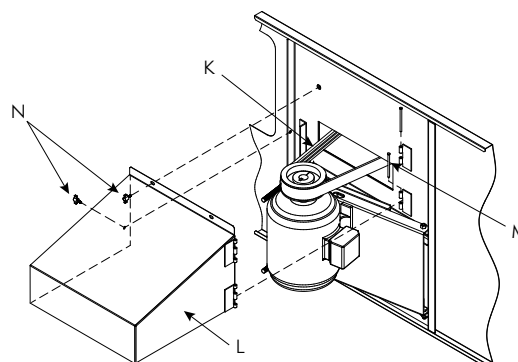

Figure 20 — Motor Guard and Power-Band Belt Installation
7. Install Power-Band belt **K** (**Figure 20**) around fan sheave and motor sheave. Tighten belt by adjusting nuts on "J" bolts. Do not overtighten the belts. The center of the belt should deflect approximately 3/4" (19mm) in the horizontal plane with moderate hand pressure.
10. To install motor guard **L**, match up hinges and install hinge pins **M** as shown in **Figure 20**.